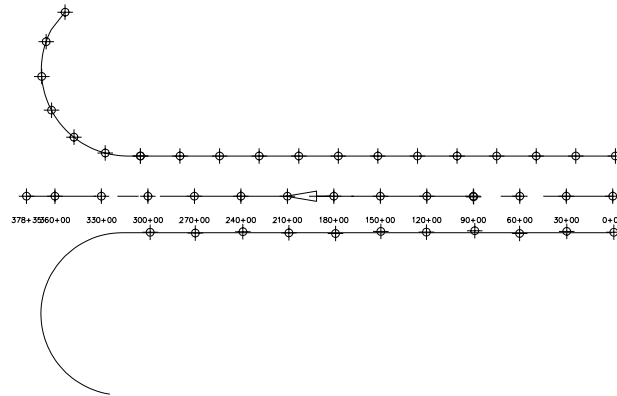

**Figure 2-56** Cross-marks displayed while creating points
11. Click on the line just below the second point; a green colored cross-mark is displayed and you are prompted to specify the point description, as shown in Figure 2-56.